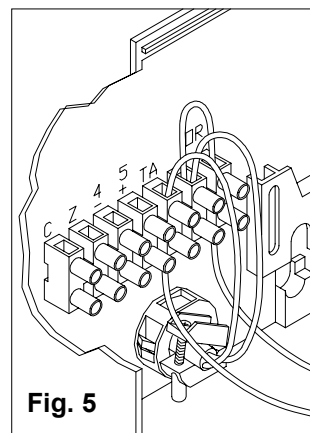

Fig. 5
- C. Insert the thermostat wires (fig.5) one in terminal TA and the other in the one next to it occupied by bridge PT which you have just moved.